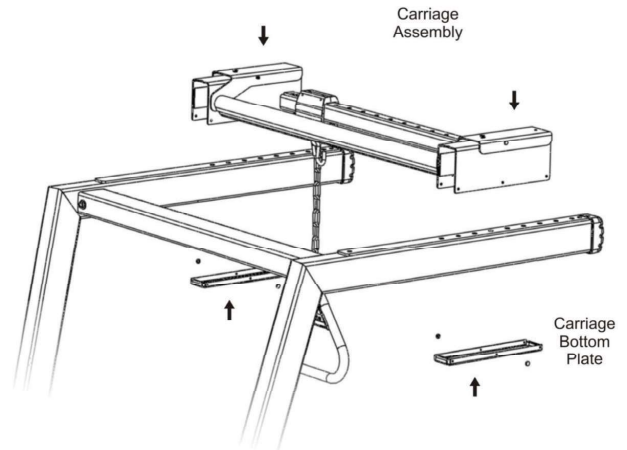

Figure 6
2. Install Carriage Bottom plates (2) to the Carriage with (2) fasteners per side (Figure 6). Utilize the center holes on each side.